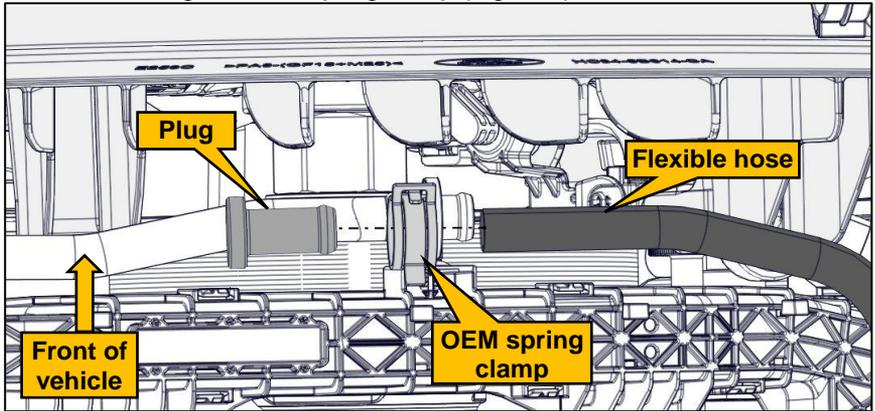

Figure 3 – Plug the flexible hose
- Insert the supplied aluminum plug into the flexible hose section and secure using the OEM spring clamp (Figure 3).